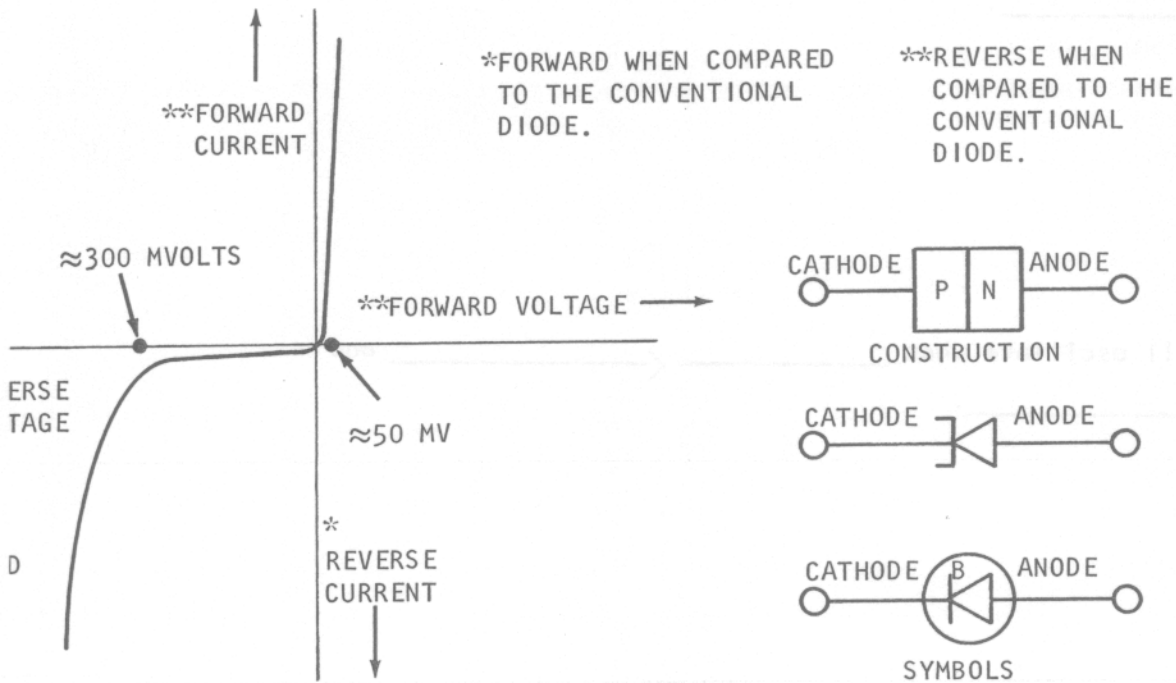

FIGURE 36A
36.12 Figure 36A compares the backward diode to the conventional diode. The backward diode has a forward conducting drop and a (low, high) peak inverse voltage rating when compared to the conventional diode.